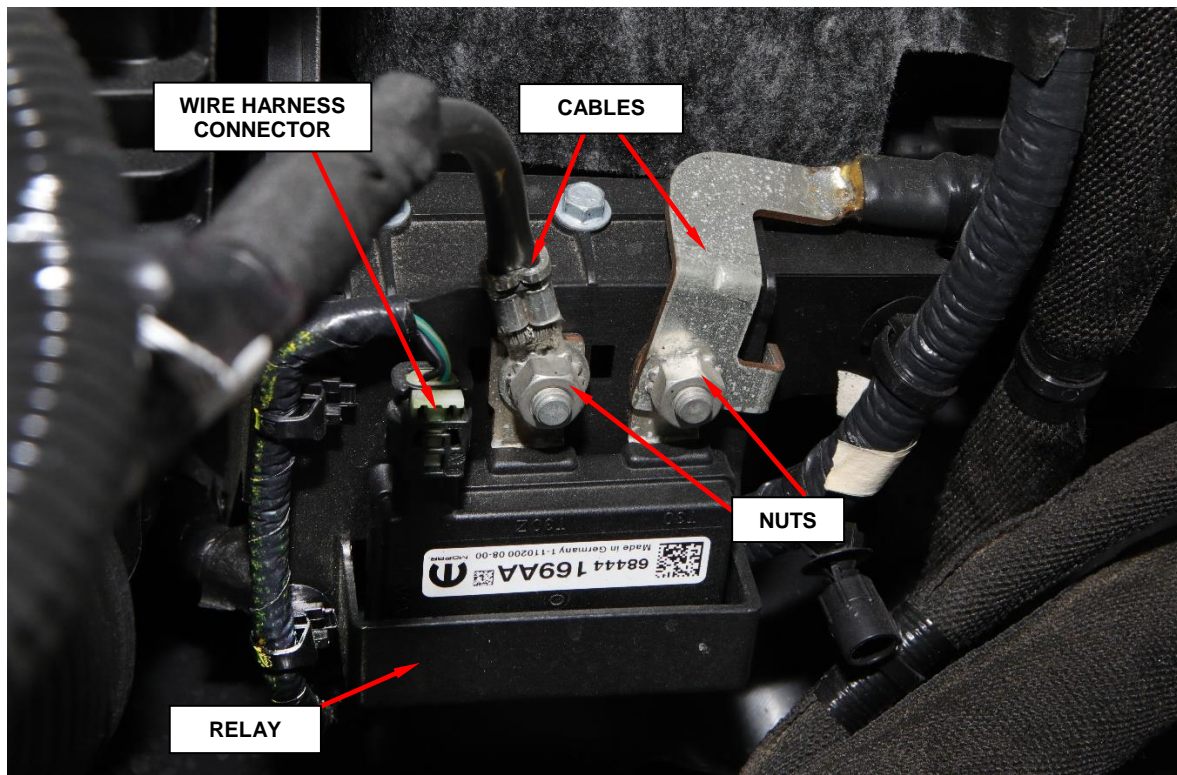

Figure 7 – Intake Air Heater Relay
5. Disconnect the intake air heater relay wire harness connector (Figure 7).
6. Remove the nuts and the cables from intake air heater relay. **Note position of cables before removing** (Figure 7).
8. Install the **NEW** intake air heater relay in the bracket (Figure 7).